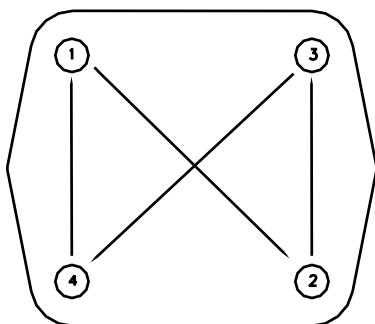

Figure 1 – Diagonally Opposing Pattern:
2. Remove the bonnet nuts and bolts gradually loosening by following the diagonally opposing technique as shown in Figure 1.
7. After installing the weir onto the valve compressor, retract the compressor by rotating the actuator counterclockwise until the Diaphragm Weir/Backing combination is pressed against the bonnet (about 1-2 full turns). Install the bonnet bolts and hardware and torque to the values listed in Table 1 following the diagonally opposing pattern shown in Figure 1. NOTE: As hardware and bonnet configurations vary, NSG recommends that the diaphragm be installed to minimum torque values as recommended in the relevant OEM literature. If leakage occurs at the diaphragm/valve body interface, torque should be increased until no leakage is observed. If leakage still occurs at the highest OEM listed value, contact NSG and return the diaphragm for replacement. Torque Values listed are from the ITT® PureFlo® Instruction Manual PFMM-08 Rev 1 for specified Handwheel Bonnets. Current versions of the OEM manual for each individual valve should be consulted and specific direction given by the plant engineer for each application. Diaphragm longevity may be increased at lower torque values.
1. Make multiple passes using the diagonally-opposing pattern shown in Figure 1 to gradually tighten the Bonnet Bolts.
Prior to pressurization (with the valve open), the bonnet bolts must be fully torqued according to the diagonally opposing pattern in Figure 1 and Table 1 with the valve slightly open. Retightening the bolts appropriately at ambient conditions after a full pressure/temperature cycle is also advised. If leakage occurs at the diaphragm/valve body interface, immediately depressurize the system and retorque appropriately. If leakage continues, inspect the valve for defects and replace the diaphragm as necessary.